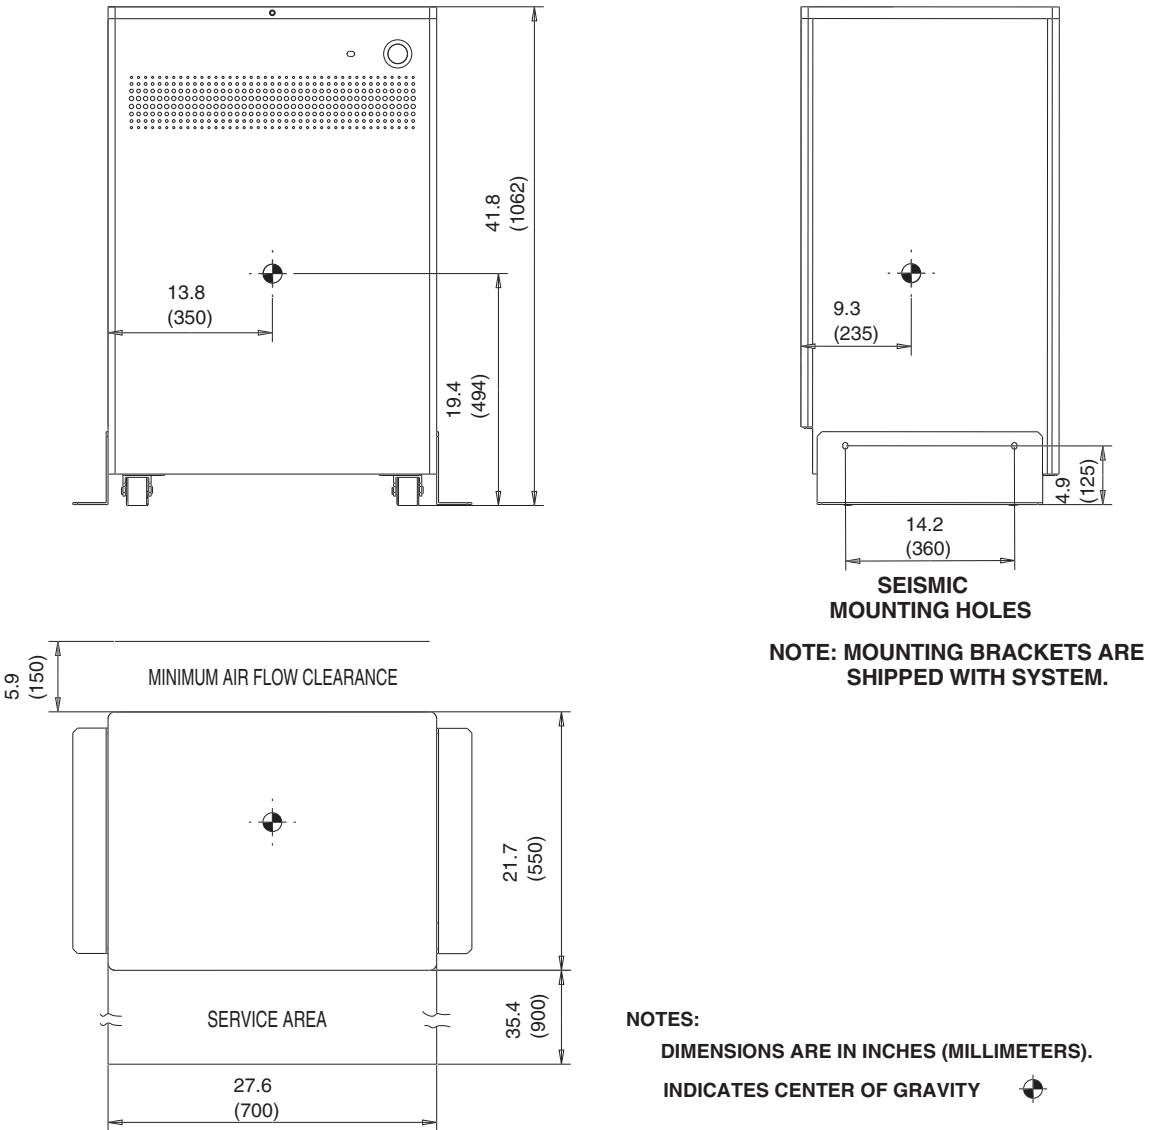

Figure 5-4 Power Distribution Unit (NGPDU)
- Power Distribution Unit: Figure 5-4